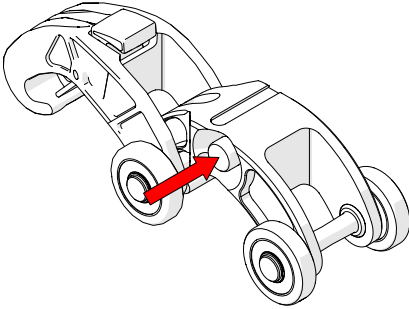

Fig. 43 - Press red button
1. Press the button on the side of the Dovetail QuickLink (*Fig. 43*).